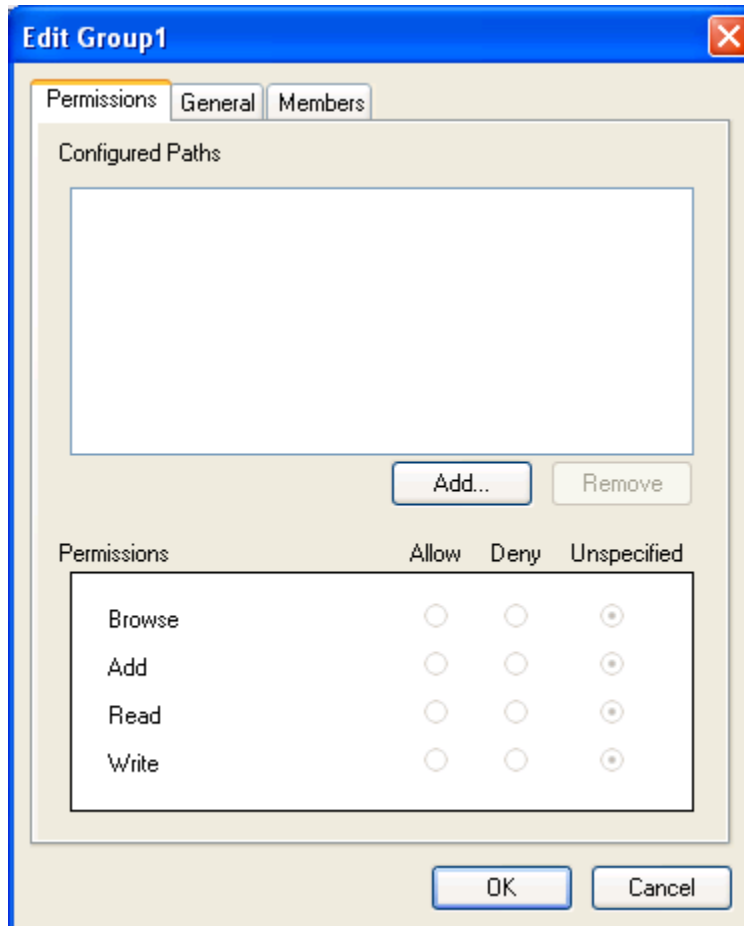

Figure 53 - Edit <Groupname> Window (Permissions Tab)
6. The **Edit <Groupname>** window (Figure 53) appears (for NT Groups, there is only the **Permissions** tab). Follow the instructions in the **Edit Group** section for adding permissions.
6. The **Edit <Groupname>** window (Figure 53) appears. Follow the instructions in the **Edit Group** section for adding permissions.
2. The **Edit <Groupname>** window (Figure 53) appears.